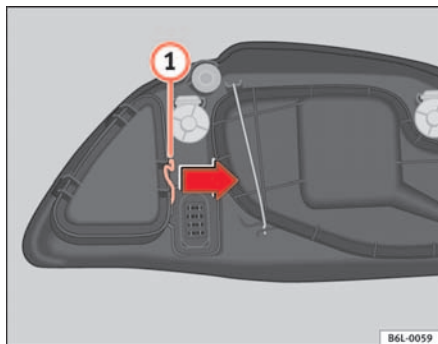

Fig. 156 Indicator lights
- Remove the loops ① ⇒ fig. 156 in the direction of the arrow and remove the cover.